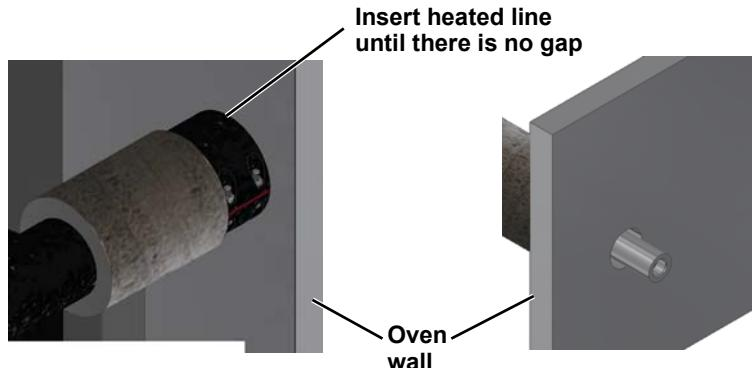

Figure D-10: Installing the oven-side of the heated-line assembly
1. Insert the heated line into the oven wall until the assembly is flush with the oven wall as shown in Figure D-10.